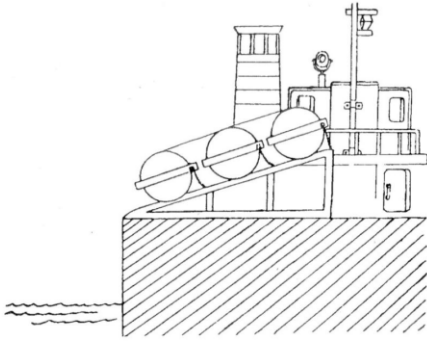
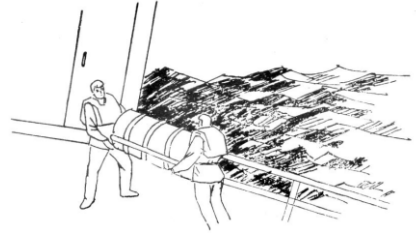

Fig 3 - Launching On Slider
Fig 4 - Throwing Over Board
2. After the lashing loosed, the container will roll down along the slider under the action of its own weight if an inclined cradle used (Fig. 3); otherwise, the container has to be removed from the cradle and thrown into the water (Fig. 4).